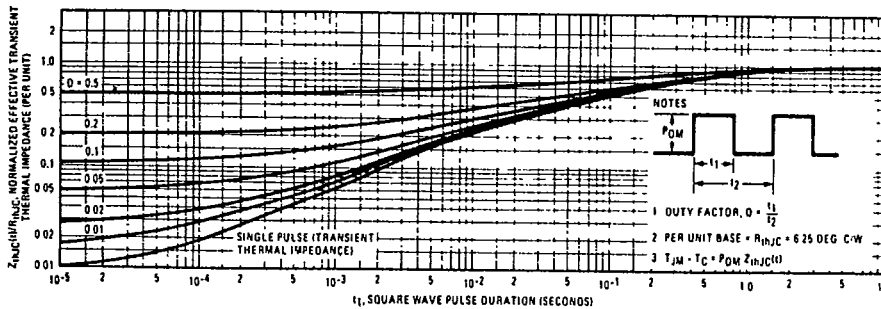

Fig. 5 - Maximum Effective Transient Thermal Impedance, Junction-to-Case Vs. Pulse Duration
① $T_J = 25^\circ\text{C}$ to 150°C . ② Pulse Test. Pulse width $\leq 300\mu\text{s}$, Duty Cycle $\leq 2\%$. ③ Repetitive Rating: Pulse width limited by max. junction temperature. See Transient Thermal Impedance Curve (Fig. 5).